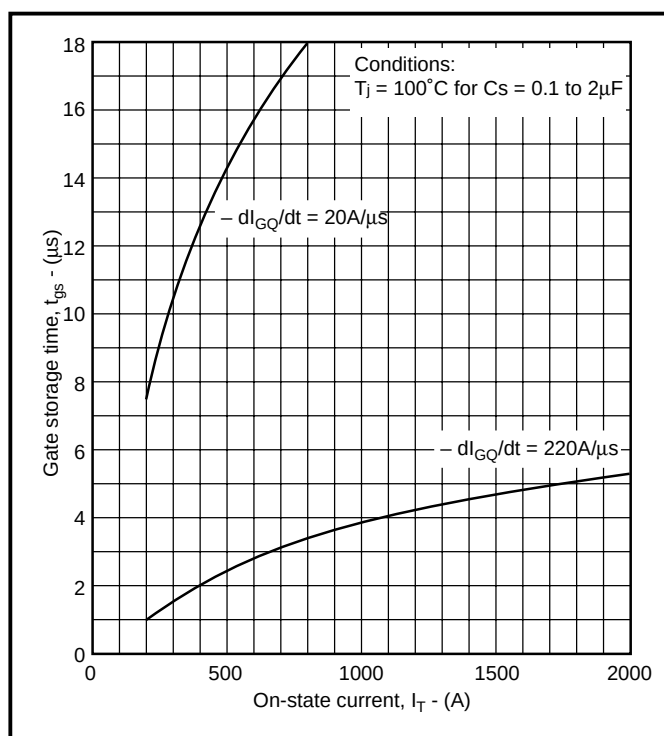

Fig. 7 Gate storage time vs on-state current
3. The reduction in storage time, t_{gs} , is very marked between $dI_g/dt = -40A/\mu s$ and $-250A/\mu s$, typically a factor of 6. It follows that as Δt_{gs} also reduces by a factor of 6 then C_s can be reduced by the same factor for the same change in ΔV . Figure 7. However, by the law of diminishing returns further